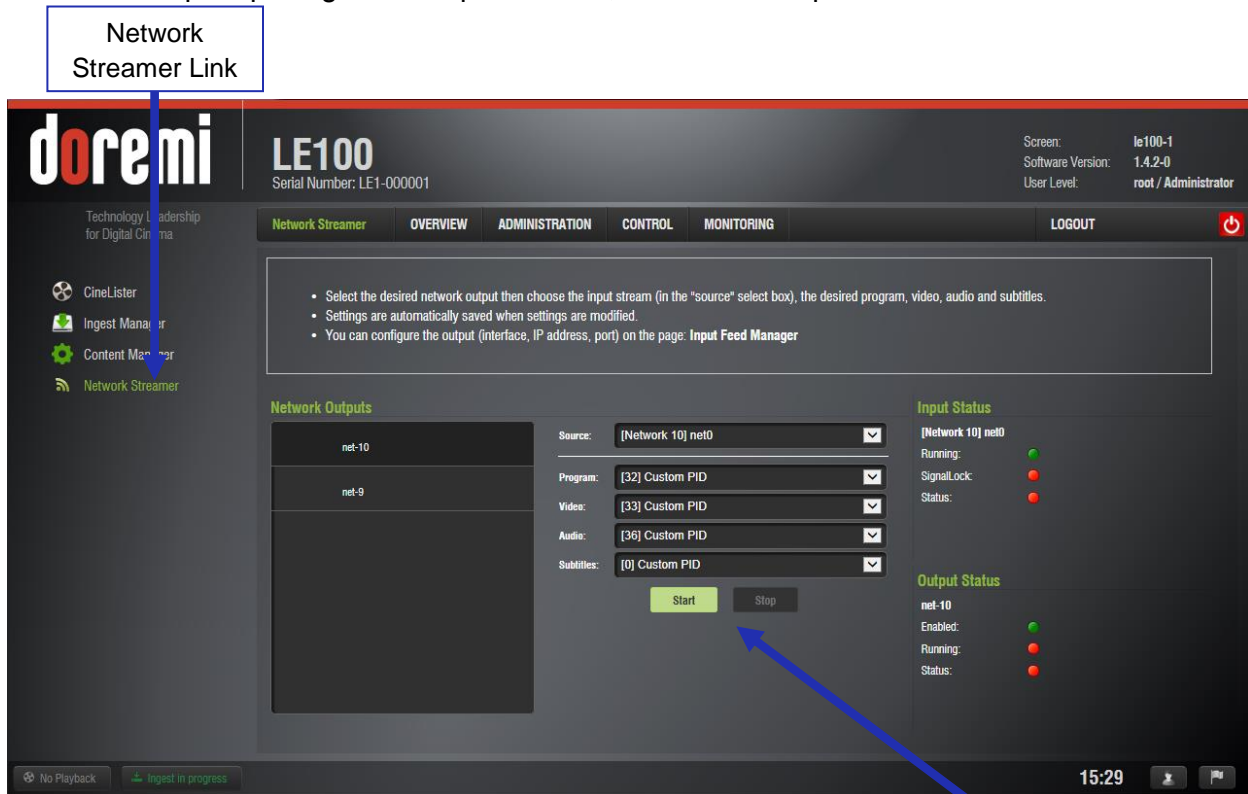

Figure 26: Network Streamer
- Log into the LE100 Web GUI, go to the Control tab and click on the Network Streamer link on the left side of the GUI (see Figure 26).